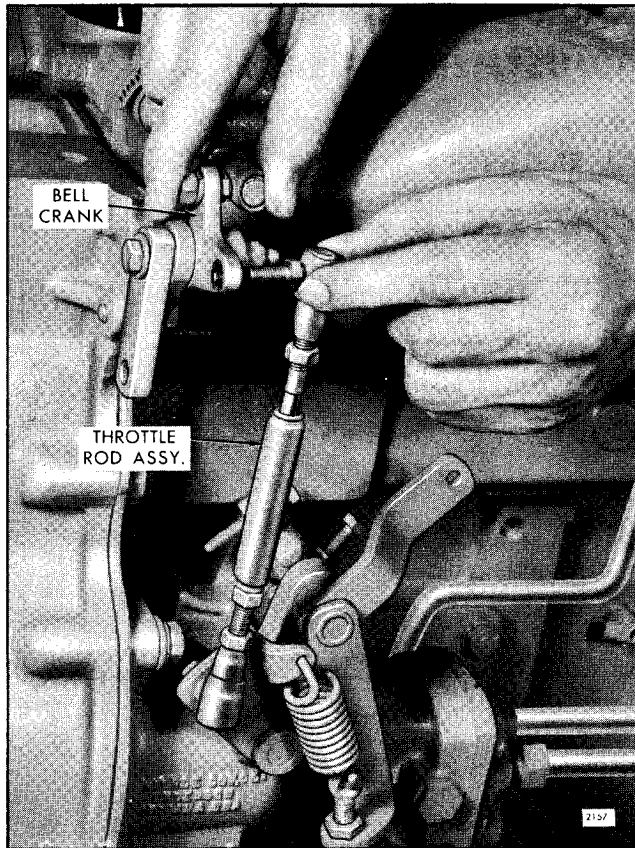

Fig. 3 - Adjusting the Throttle Rod Assembly
3. Hold the injector control racks in the full-fuel position, then adjust the length of the throttle rod assembly, by turning the ball and socket on the throttle rod, until it can be connected to the bell crank as shown in Fig. 3, without compressing the spring within the rod more than $1/32''$.